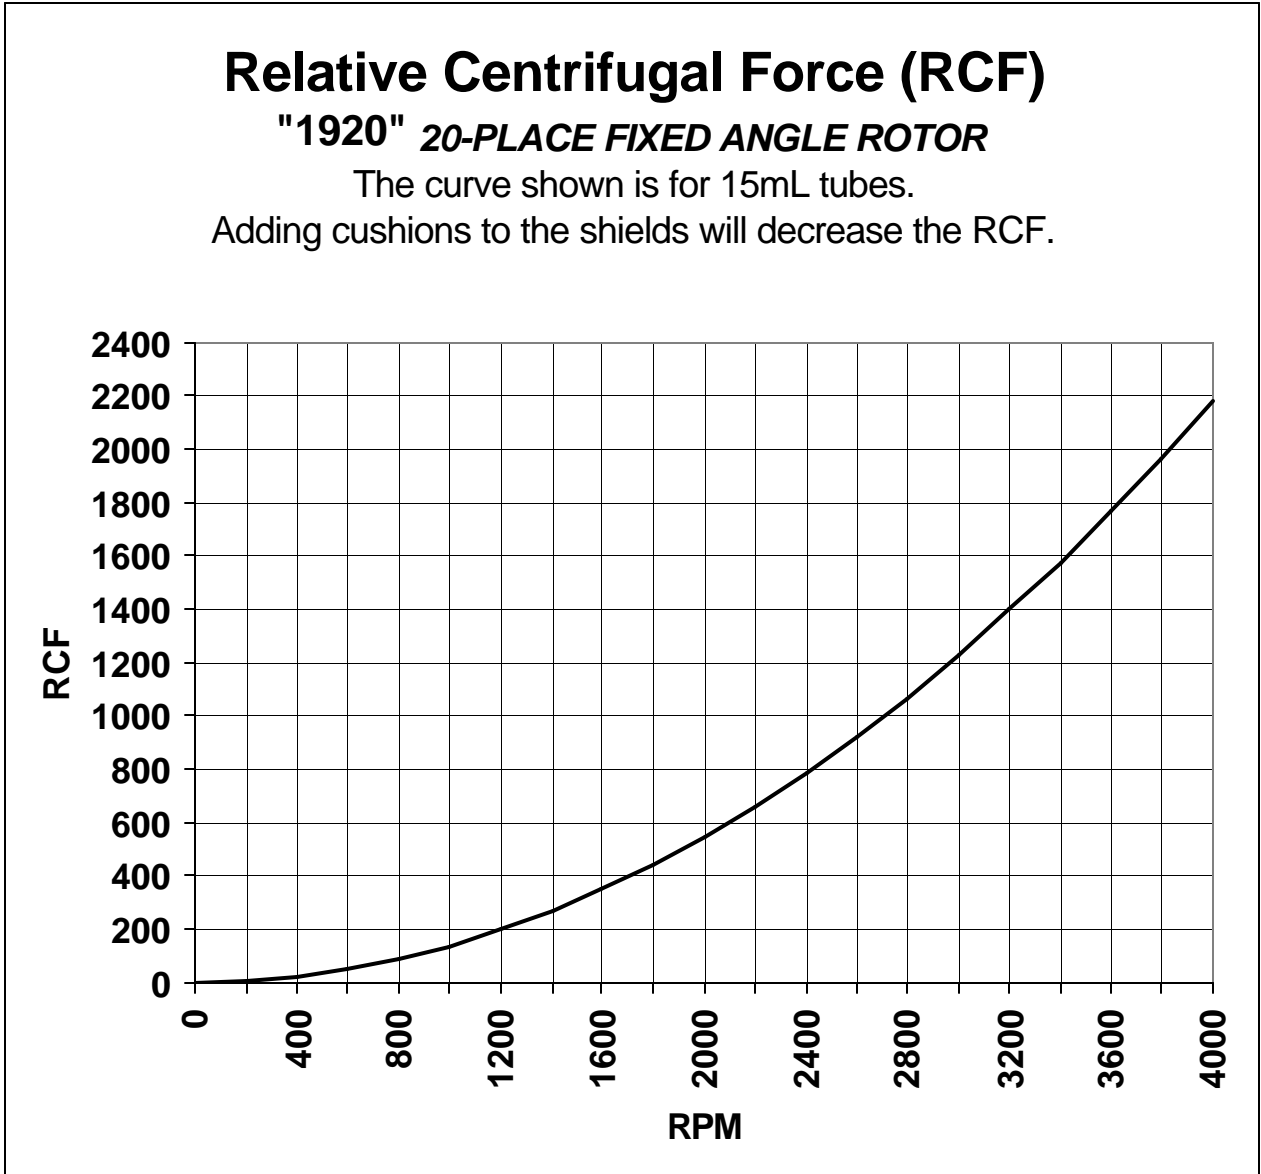

Figure 4
- c) Adjust the max speed trim pot, (clockwise for increased speed), checking the speed with the tachometer until the rotor speed is correct. Refer to Figure 4.